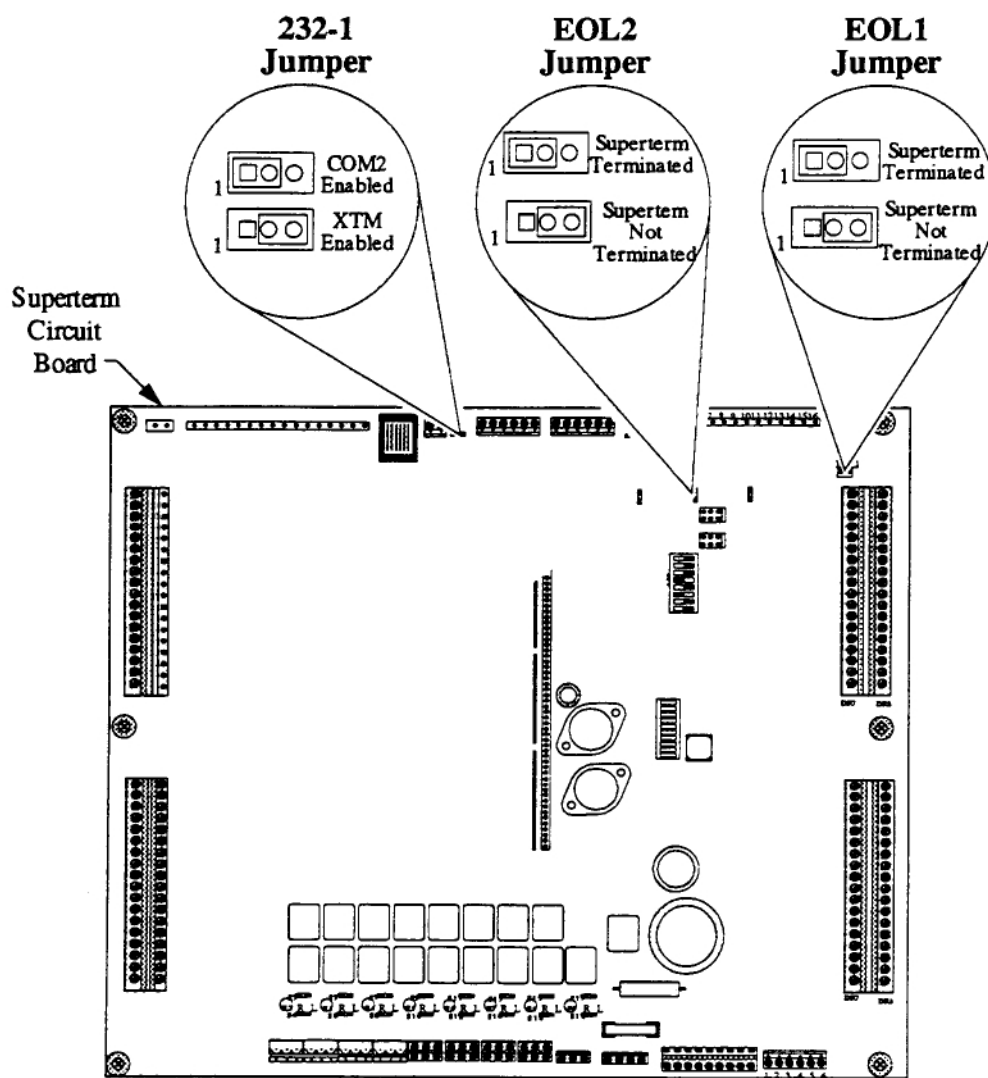

Figure 46 - 232-1, EOL1, and EOL2 Jumper Locations and Settings
- Set the jumper to contact the center post (pin 2) and the left hand post (pin 1) (see Figure 46).
Set the jumper to contact the center post (pin 2) and the left hand post (pin 1) (see Figure 46).